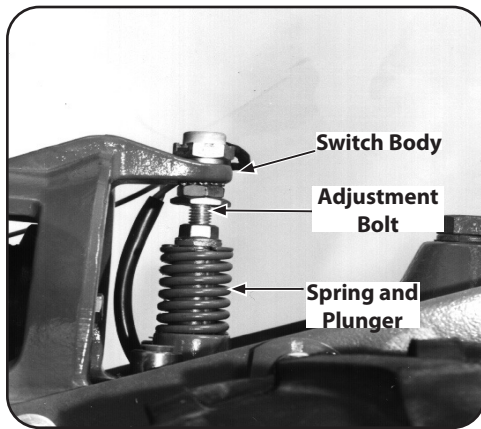

Figure 5-19
When the Wheels/Tines/PTO Drive Lever is moved up into REVERSE, the engine and engine mount move down to press on the reverse adjustment bolt. See Figure 5-19.
The spring and plunger assembly is designed to prevent the reverse disc from making contact with the transmission pulley until you shift into REVERSE. When the lever is in NEUTRAL, the switch body on the bottom of the engine mount tab should be resting squarely on top of the reverse adjustment bolt. See Figure 5-19. The reverse adjustment bolt can be adjusted up or down to correct a number of reverse drive operating problems, as explained next.
6. Move the Wheels/Tines/PTO Drive Lever to NEUTRAL. The switch body on the bottom of the engine mount tab should be resting squarely on top of the reverse adjustment bolt, and the reverse disc should be at least 3/16" away from the transmission drive pulley. See Figure 5-19. If the reverse disc is any closer than this, raise the reverse adjustment bolt (turn it counter-clockwise).